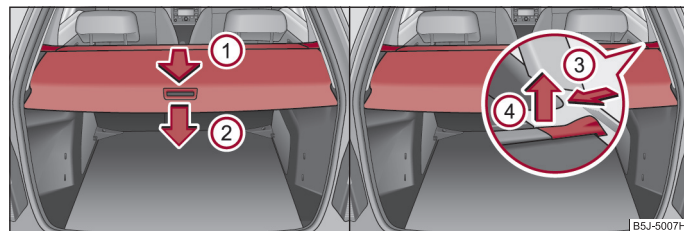

Fig. 61 Luggage compartment: Foldable luggage compartment cover / removing the foldable luggage compartment cover
- Pull the foldable luggage compartment cover in direction of arrow ① as far as the stop into the secured position ⇒ fig. 61.
- Have the foldable luggage compartment cover removed to transport bulky goods by pressing on the side of the cross rod in direction of arrow ③ and taking it out by moving it in direction of arrow ④ ⇒ fig. 61. ►